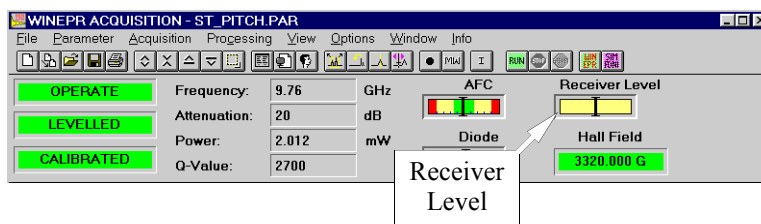

Figure 17-21 The Receiver Level display.
11. **Adjust the Receiver Gain.** Monitor the Receiver Level while the scan is running. (See Figure 17-21.) If the needle deflects more than 1/4 of the display, lower the Receiver Gain. Reacquire the spectrum and lower the Receiver Gain until the needle does not deflect more than 1/4 of the display. You may have to repeat this last step a few times.